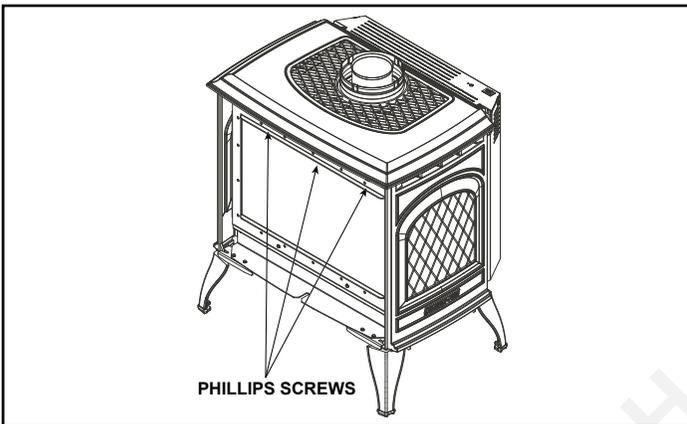

Figure 6.11 Remove Glass Frame
- Using a #2 Phillips screwdriver, remove the three screws on the front glass assembly and take the glass assembly off the appliance. See Figure 6.11.